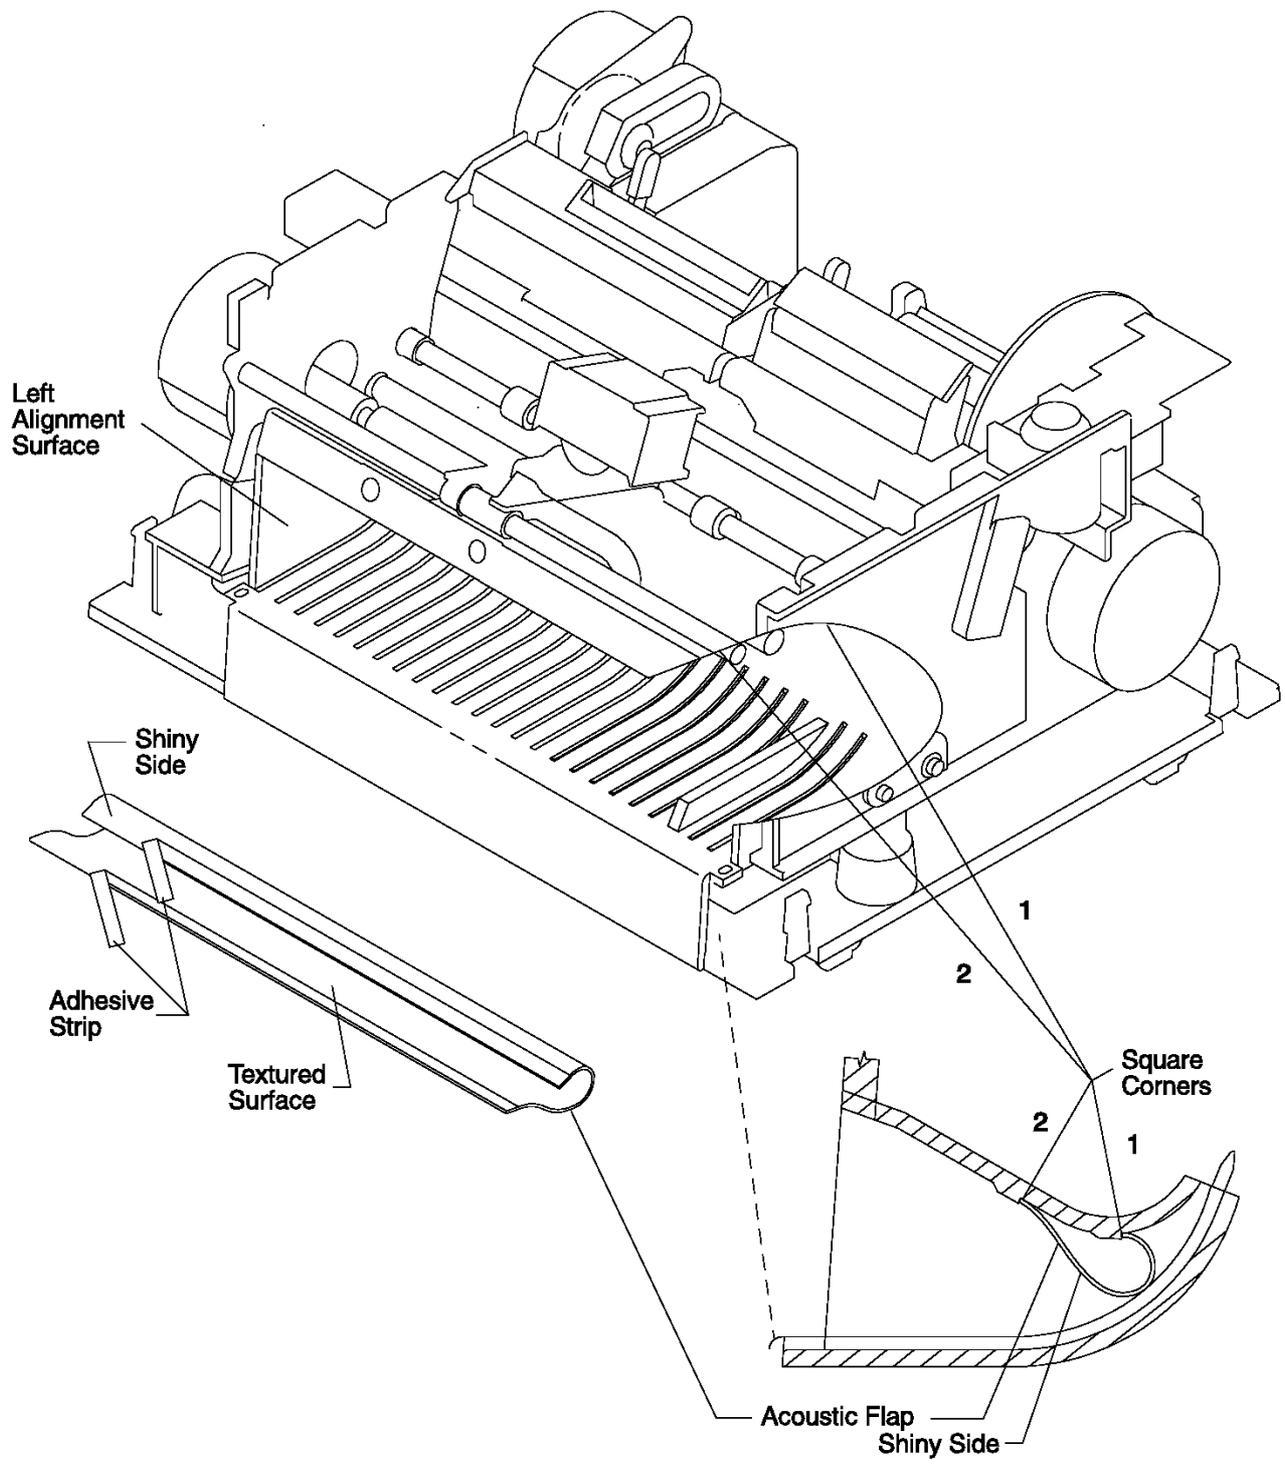

Figure 6-48. Acoustic Flap
- See Figure 6-48 in topic 6.38.3.2.
1. Lift up 25.4mm (1 inch) of both adhesive strips on one end of the flap. Fold both adhesive strips outward. Later, you will use needlenose pliers to remove the remainder of the strip, after the flap is correctly positioned. See Figure 6-48.
2. Fold the flap in a U-shape with the shiny side out so that both adhesive edges come in contact with the cover. See Figure 6-48.
4. Place the flap against the square corner (1) of the inner locating rib on the cover. Align the edge of the flap along the rib.
6. Place the shiny edge of the flap on the square corner (2) of the outer locating rib. Align the edge of the flap along the rib.